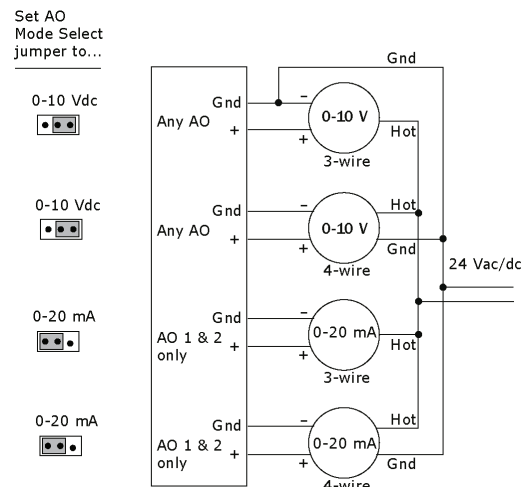

Fig. 38 — Analog Output Diagram
- Connect the analog output wiring to the screw terminals on the I/O Flex 6126 controller and to the controlled device (Fig. 38).